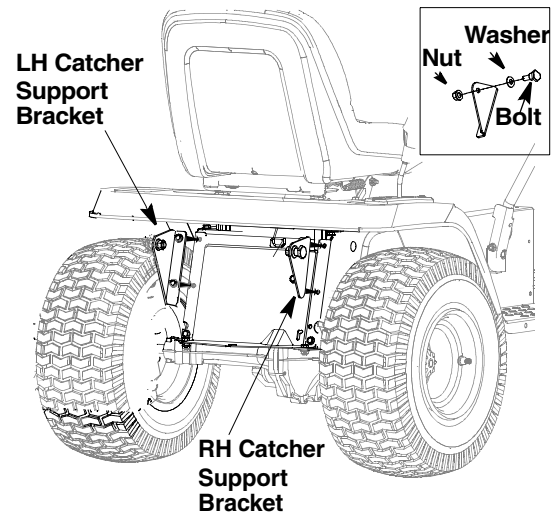

Figure 4
- Place the RH Catcher Support Bracket (Ref. No. 5) in position as shown in Figure 4.
- Insert the Shoulder Screw/Bell Washer subassembly through the hole on the Catcher Support Bracket. Secure with a Flange Lock Nut (Ref. No. 9). See Figure 4 inset for details. Repeat on other side.